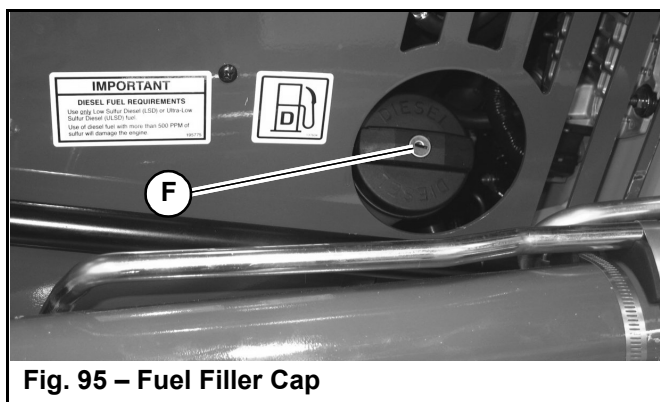

Fig. 95 – Fuel Filler Cap
2. Using the ignition key to unlock fuel cap (F, Fig. 95) and remove the fuel cap from the fuel filler neck.